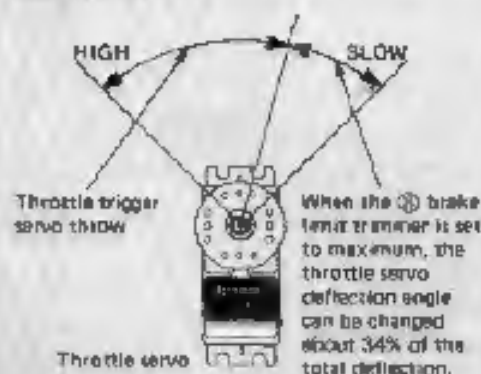

Fig. 4
● This adjuster operates only when the ② throttle trigger is at the slow side as shown in Fig. 4.
The slow side of the throttle servo is operated as shown in Fig. 4 with the brake adjuster.